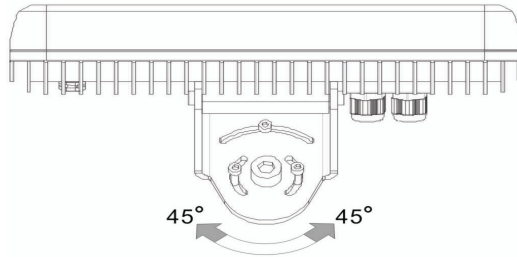

Figure 9: Adjusting Tripix Wash pan angle
1. See Figure 9. Loosen the four screws or bolts in the base of the bracket.